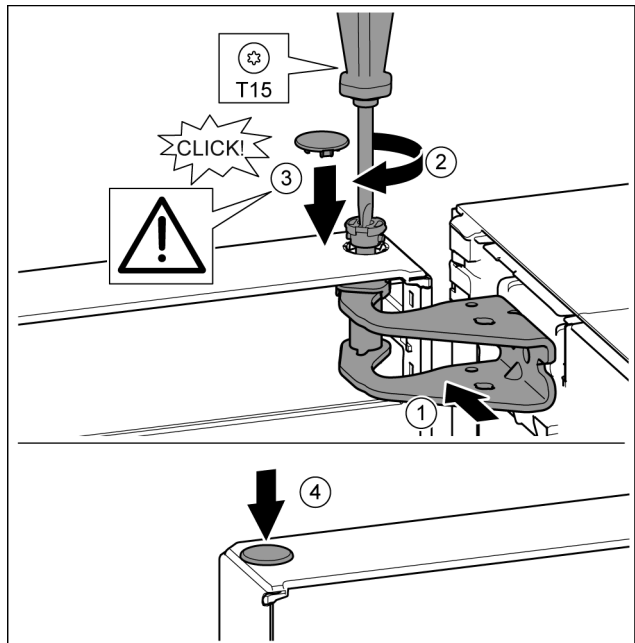

Fig. 23
- ▶ Align the top of the door with opening in the bearing bracket. Fig. 23 (1)
- ▶ Insert the bolt and tighten with a T15 screwdriver. Fig. 23 (2)
- ▶ Fit the protective cover to protect the door: Insert the protective cover and check that it is attached to the door. If not, insert the bolt fully. Fig. 23 (3)
- ▶ Insert the plugs. Fig. 23 (4)